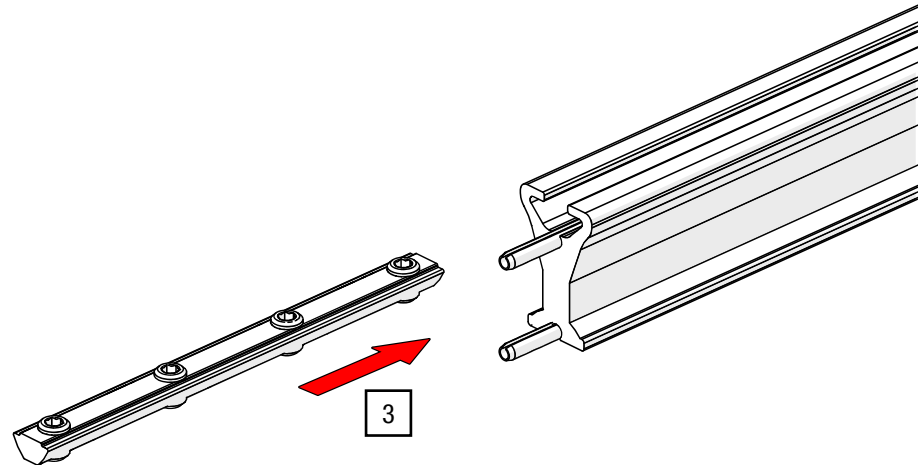

Fig. 27: Track splice – Push into track
3. Push the track splice completely into the slot channel of a track section (see Fig. 27).